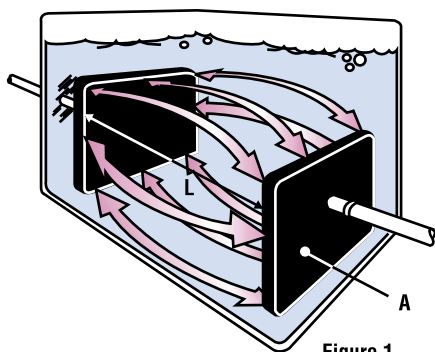

Figure 1
The basic unit of conductivity is the siemens (S), formerly called the mho. Since cell geometry affects conductivity values, standardized measurements are expressed in specific conductivity units (S/cm) to compensate for variations in electrode dimensions. Specific conductivity (C) is simply the product of measured conductivity (G) and the electrode cell constant (L/A), where L is the length of the column of liquid between the electrodes and A is the area of the electrodes (Figure 1).